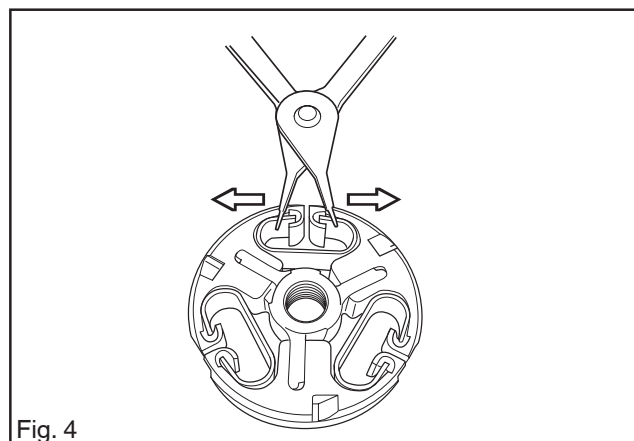

Fig. 4
1. Fit the clutch shoes on the hub and fit the springs with circlip pliers. See fig. 4.
6. Remove the clip (D) and unscrew the adjuster screw (E). See fig. 4.
7. Use a pair of pliers and push on the pump piston at (F) so that the cover plug (G) and pump piston (H) can be removed. See fig. 4.
8. Use a pair of pliers and pull out the spring (I) and the 2 washers (J). See fig. 4.